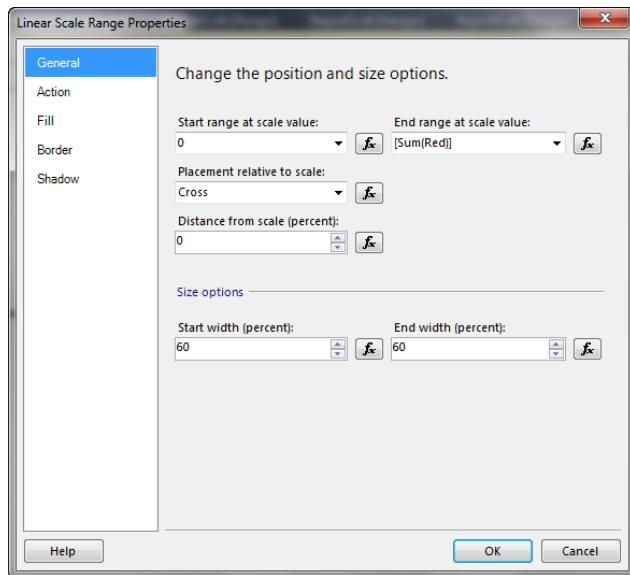

Figure 6-25
9. For each of the three default ranges, Figure 6-25 configures the properties such that the Start and End widths are 60 percent.